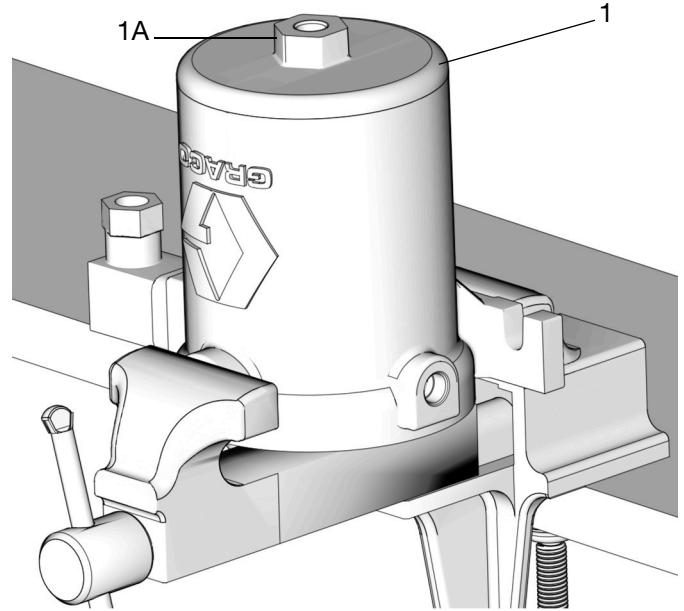

FIG. 19
17. Examine the piston assembly (33) for scratches and other wear and damage. If damaged, replace the pump piston assembly (33).
18. Reposition the air motor cylinder in vise to access the bottom of the air motor cylinder (FIG. 19).